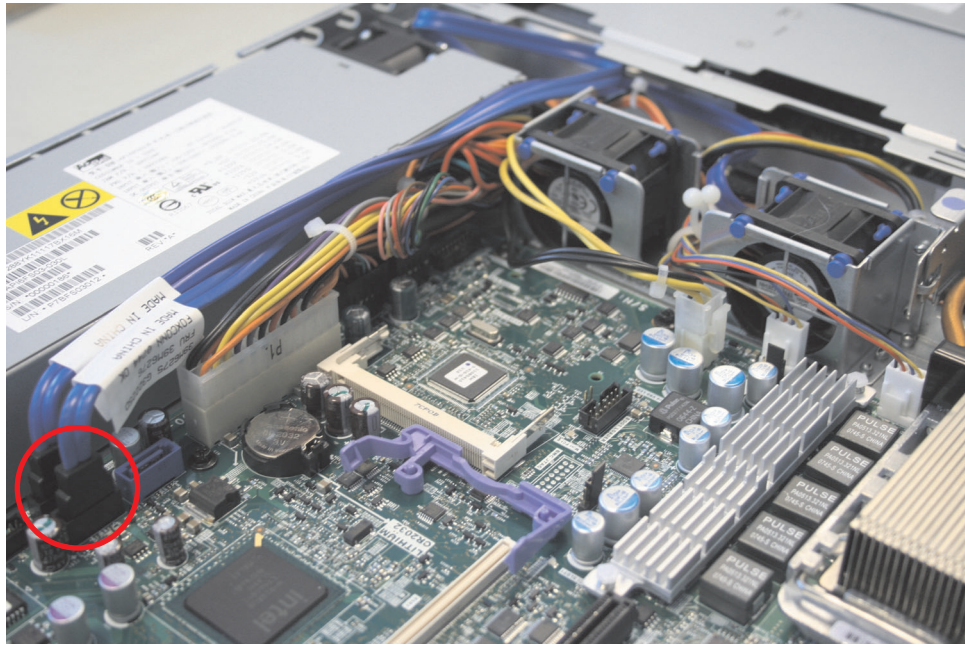

Figure 266. SAN Volume Controller 2145-8A4 SATA cable connectors
8. Disconnect and remove both SATA disk cables from sockets SATA 0 and SATA 1 from the system board, as shown in Figure 266 on page 286.